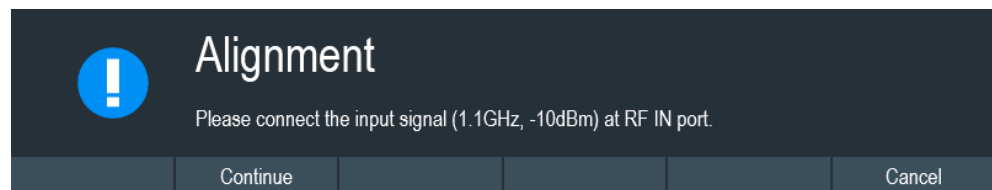

Figure 4-8: Input signal for frequency clock alignment
3. Select "Yes" to overwrite existing default alignment data and proceed to perform alignment. The R&S Cable Rider ZPH displays the "Alignment" dialog. Depending on the selected alignment item, different input signal is required. See Figure 4-8 and Figure 4-9.